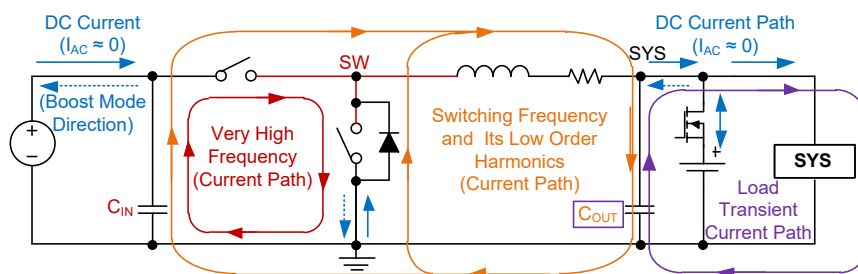

Figure 20. The Paths and Loops Carrying High Frequency, DC Currents and Very High Frequency (for Layout Design Consideration)
The switching node (SW) creates very high frequency noises several times higher than  $f_{SW}$  (1.5MHz) due to sharp rise and fall of the voltage and current in the switches. To reduce the ringing issues and noise generation, designing a proper layout is important to minimize the current path impedance and loop area. A graphical guideline for the current loops and their frequency content is provided in Figure 20. The following considerations can help making a better layout.